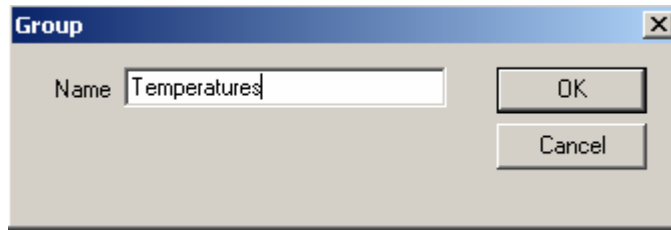

Figure 4.5. Naming the New Group
2. This opens the **Group** dialog box. Name the group "Temperatures," as shown in Figure 4.5. Click **OK**. The new group will appear under the **PLCSim** device.